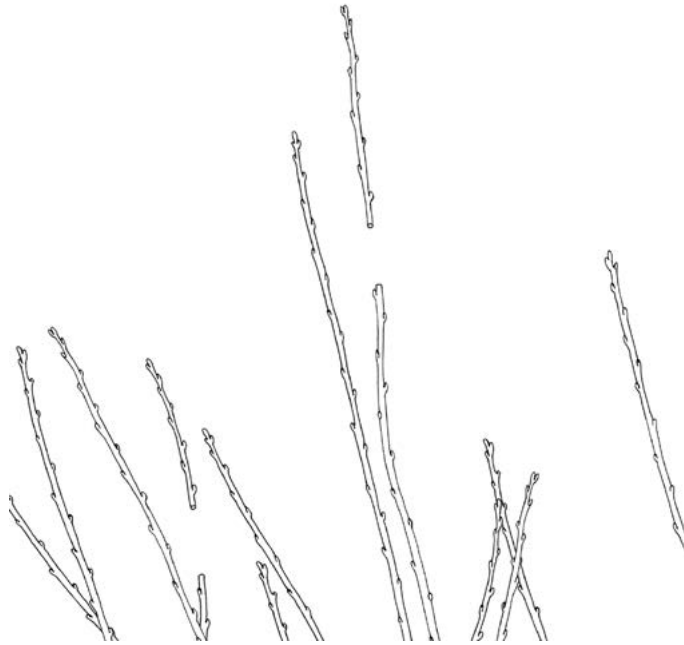

Figure 32
- To promote lateral branch development, continue to head leader extension at 24–36 inches from its previous season point of origin as explained in the directions for the second dormant season (Figure 32).